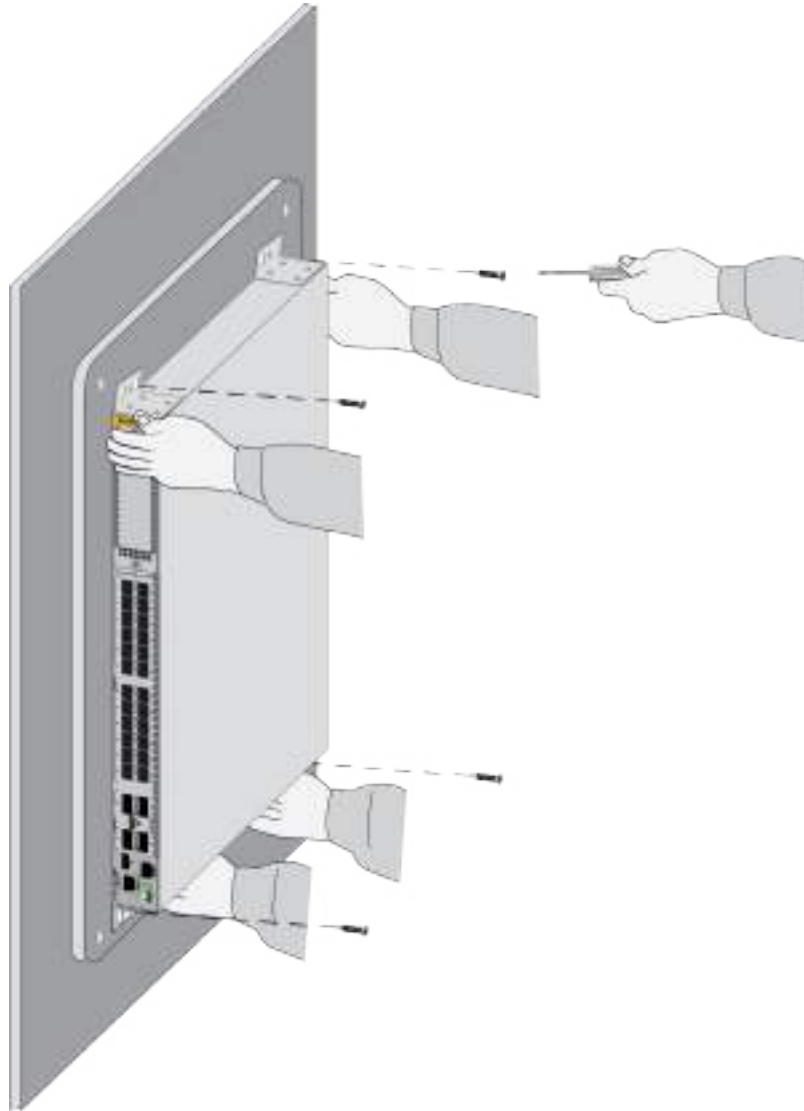

Figure 75. Attaching the Switch to the Plywood Base
3. After attaching the brackets to the side of the switch, have two people hold the switch on the plywood base on the wall while you secure it with the four provided screws. Refer to Figure 75 on page 126.